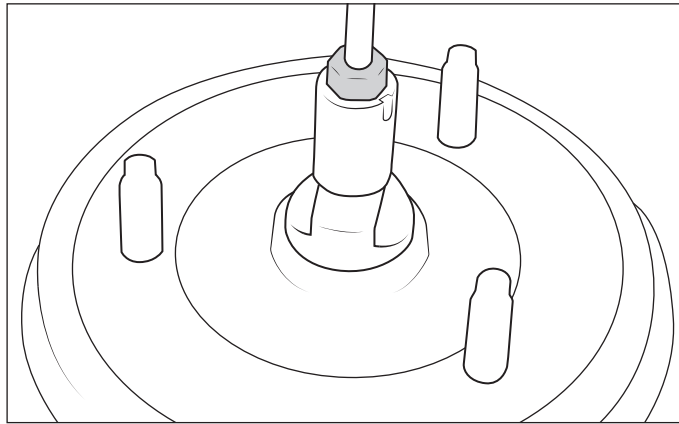

Figure 12
- A. Loosen the compression fitting nut where the air line enters the strut. Once loose, the air line will pull out of the fitting (fig. 12).